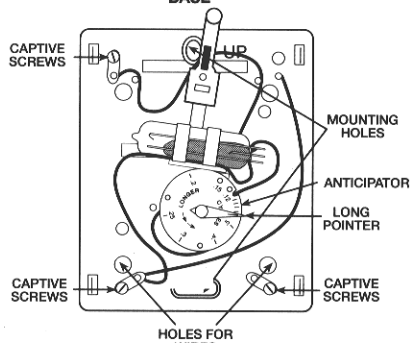

FIGURE 3
- Remove Front Cover of new thermostat by inserting a finger in the side of the thermostat and gently prying away each corner. Remove Base, Figure 2, from Sub-Base, Figure 3, by loosening three captive screws.
- Place Sub-Base, Figure 3, on wallplate over wall opening. Mark wall with pencil at mounting holes as shown in Figure 2. Now lay wallplate and Sub-Base to the side.
- Place Base, Figure 3, over Sub-Base and attach by tightening three captive screws.